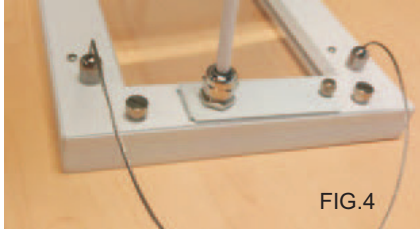

FIG.4
5. Tighten the suspended kits screw nut with panel screw and connect the top side on the ceiling (FIG.4). Adjust the height of the luminaire according to your needs (FIG.5). When changing the driver, you should unscrew the screw, and then take down driver's cover plate (FIG.6).